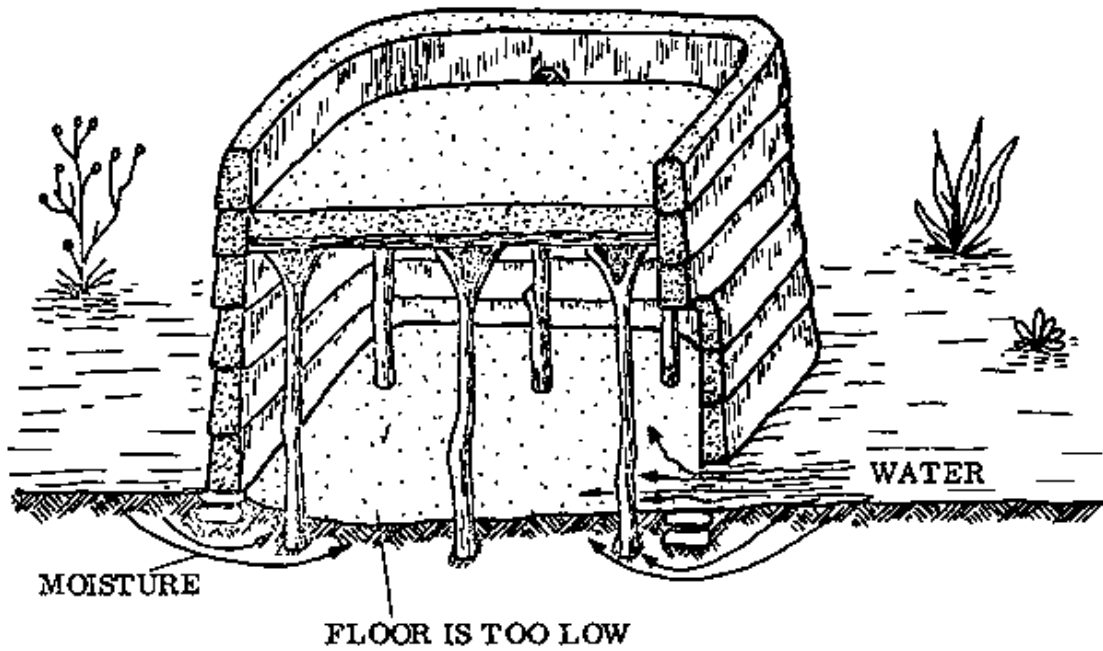
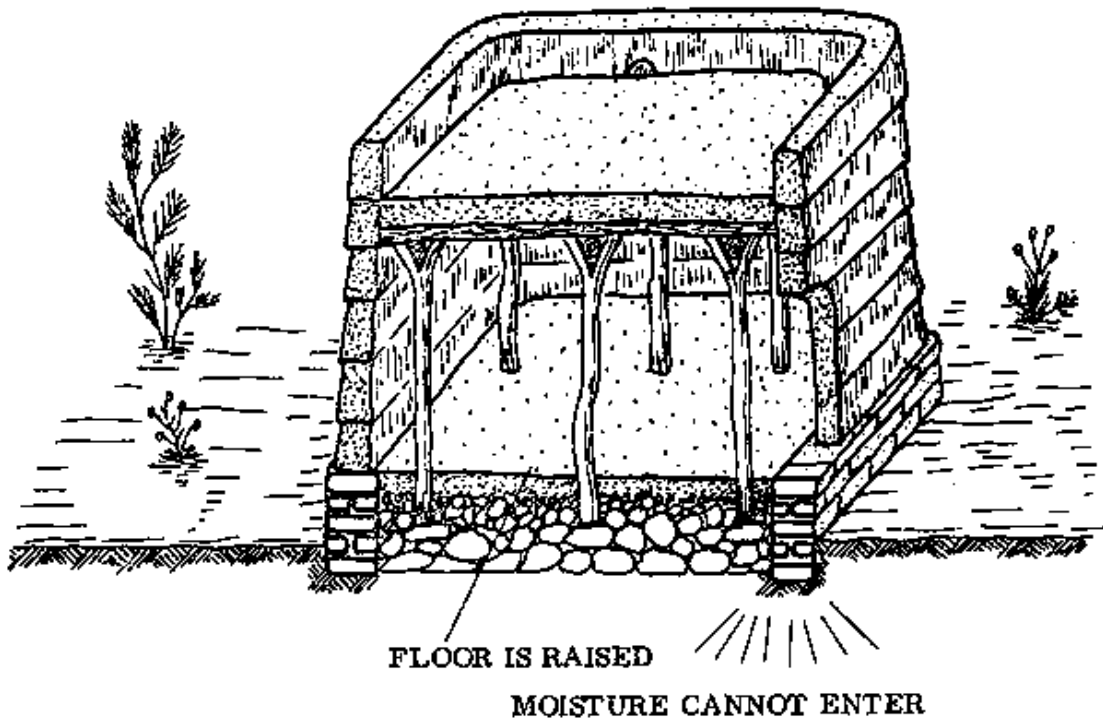

Fig. 1 BUILDING WITHOUT FOOTING
Fig. 2 BUILDING WITH FOOTING
- COMPARE: Fig. 1 shows a building with no footing. The floor is at ground level and water can easily enter. The building in Fig. 2 rests on a footing and the floor is raised above ground level, so it will be drier and thus healthier to live in, and also less likely to collapse since the mud walls are kept drier.